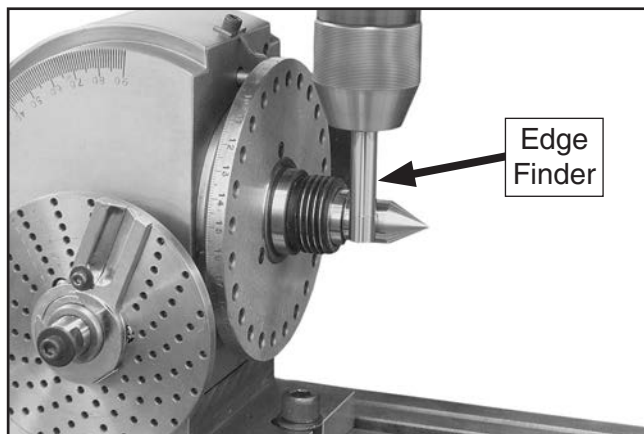

Figure 7. Aligning the spindles using an edge finder.
2. Mount the included dead center into the dividing head spindle and an edge finder into the mill spindle, then move the mill table to position the edge finder in front of the center, as shown in **Figure 7**.